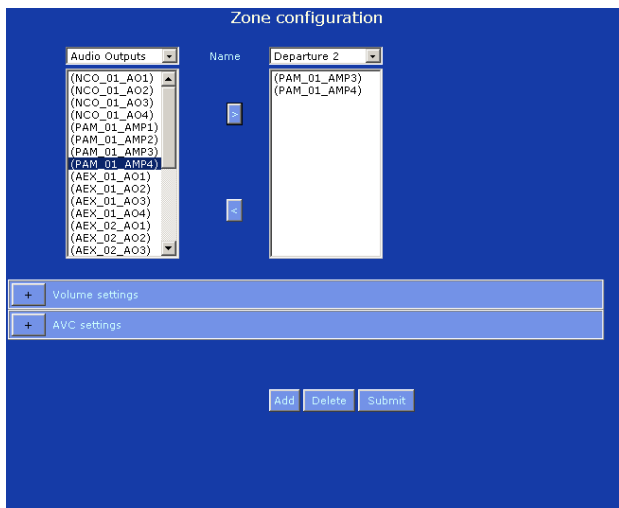

figure 36.9: Add zone, step 7
- 7 Repeat steps 5 and 6 to add additional outputs to the zone. See figure 36.9 for an example of an end result.